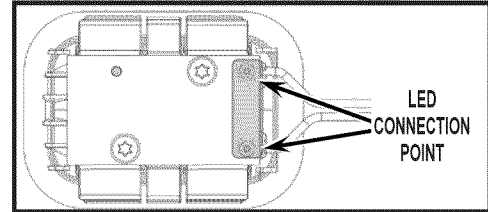

FIGURE 3
4. If the potentially failed LED modules DO NOT have connectors, a jumper needs to be placed across the 2 connection points on the potentially failed LED module. See *Figure 3*. The refrigerator must then be plugged back in to identify if the jumper makes the remaining lights come back on. If it does, then that would indicate the LED has failed and would need to be replaced, otherwise you will need to repeat the process for each potentially failed LED module.